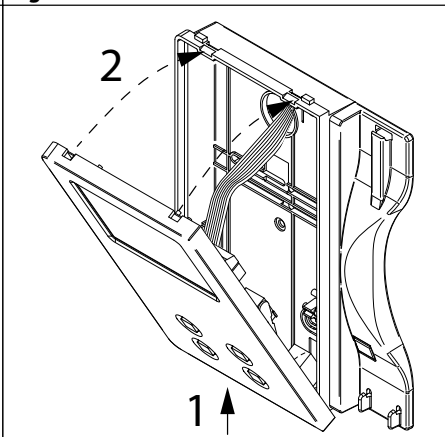

Fig. 5
5. Once testing is complete and all the necessary adjustments are made, disconnect the handset from the cover and close the unit as shown in **Fig. 5**: first hook it on the bottom then push in the top until you hear the clip.